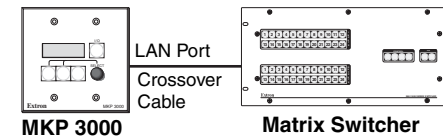

Figure 2-14 — Direct MKP connection using the LAN port
Any number of control panels can be connected as part of a network to any Ethernet-enabled matrix switcher via the switcher's Ethernet port (figure 2-14). All TP cables in this example are wired as patch (straight-through) cables.
- **Crossover cable** — Direct connection between the MKP and a host computer or an Ethernet-enabled matrix switcher (figure 2-14)
- **Patch (straight) cable** — Network connection between the MKP and an Ethernet LAN (figure 2-14)